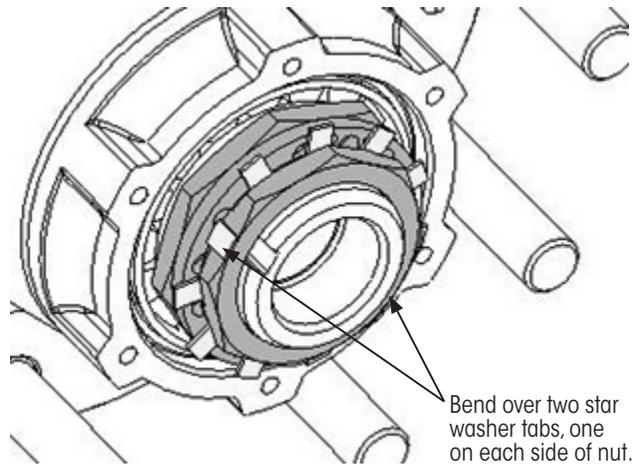

Figure 18: 4-piece nut system assembly (HN spindle only)
- B. **4-piece nut** - bend over two star washer tabs on opposite sides of the nut as shown in Figure 18.
3. If four-piece, ensure two tabs are folded over as shown in Figure 18.